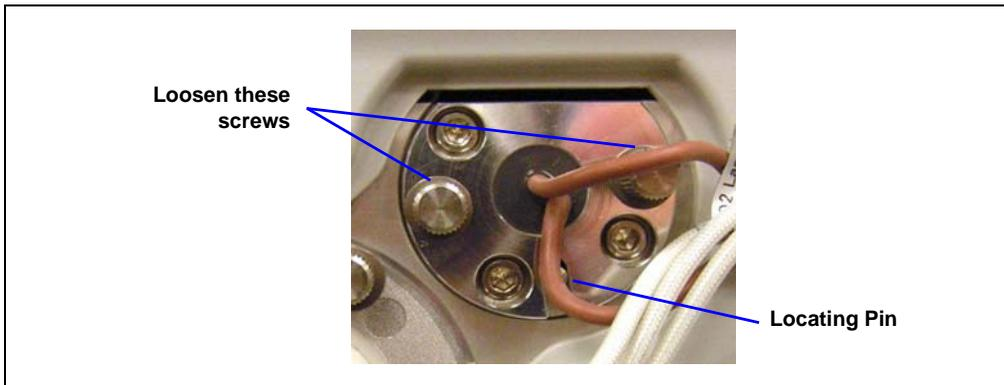

Figure 5-6. Tungsten Lamp Screws and Locating Pin
7. Loosen the two screws in the lamp flange (see Figure 5-6) and pull out the lamp.
8. Align the new tungsten lamp (P/N 066348) with the locating pin (see Figure 5-6), and then gently push the lamp into the lamp housing. When the lamp is seated, tighten the screws in the flange.